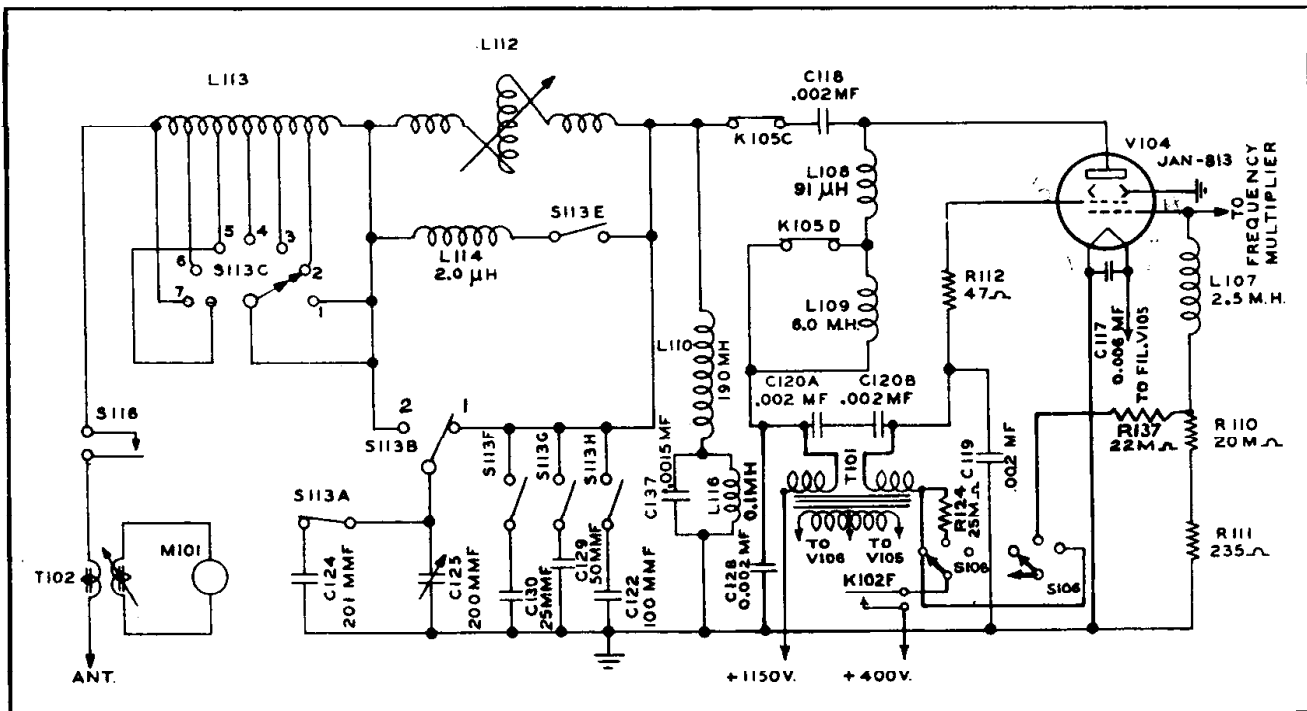

Figure 4-13. Power Amplifier and High Frequency Output Circuits
(6) POWER AMPLIFIER AND OUTPUT NETWORK.—The power amplifier stage employs a Type JAN-813 beam pentode tube and operates as a straight amplifier at all frequencies. When the transmitter is operating in the frequency range 200 kc to 600 kc, the output of the l-f oscillator is capacitively coupled to the grid of the power amplifier (see fig. 4-13). When the transmitter is operating in the frequency range 2.0 mc to 6.0 mc the output of the first frequency multiplier tube, V102, is coupled to the grid of the power amplifier tube through first multiplier range switch S102 contacts and capacitor C116. When the transmitter is operating in the frequency range 6.0 mc to 18.1 mc the output of the second frequency multiplier tube, V103 is coupled to the grid of the final amplifier tube, V104, through second multiplier range switch contacts S103 and capacitor C116. When l-f operation has been selected output circuit selecting relay K105 operates to connect the plate circuit of the final amplifier tube, V104, to external loading coil terminal J117. With output circuit selecting relay K105 in the normal unoperated position the plate circuit of final amplifier tube V104 is connected to the output network that is incorporated in the transmitter proper. Voltage for the screen of power amplifier V104 is supplied by the low voltage section of the dynamotor. This voltage is applied through relay contacts K102F when the keying relay, K102, is operated. When the power level switch S106 is in the "CALIBRATE" position, screen voltage for V104 is removed and screen is connected to the control grid circuit through resistor R-137. This connection permits negative voltage on control grid to be applied to screen grid and thereby cuts off output from the power amplifier stage. If power level switch is in the "TUNE" position, screen voltage on V104 is reduced through series resistor R-124 to protect the tube from overload when transmitter is tuned. Full screen voltage is applied to V104 when switch S106